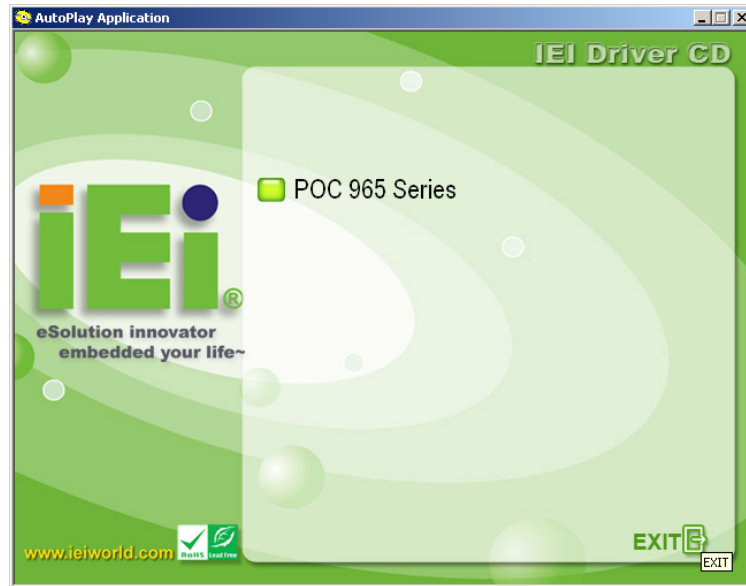

Figure 7-1: Introduction Screen
Step 2: The driver main menu appears (**Figure 7-1**).